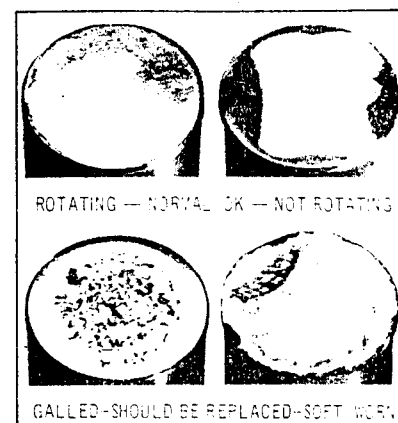

Figure 8-1-3
10. Examine the cam contact surface at lower end of lifter body. If this surface is excessively worn, galled or otherwise damaged, discard the lifter assembly (see Figure 8-1-3). In this case, also examine the mating camshaft lobe for excessive wear or damage.